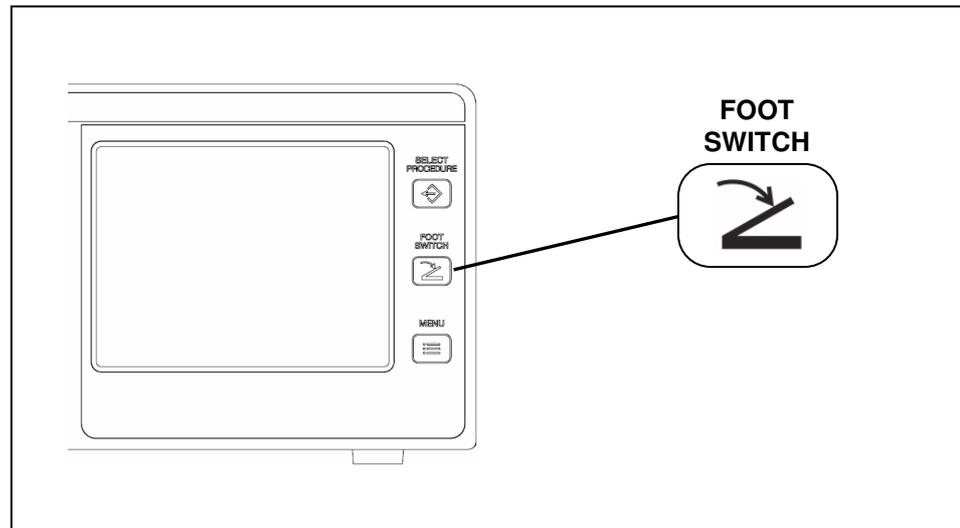

Figure 4.7
2. Press the "FOOTSWITCH push button" on the right side of the touch-screen as shown in figure 4.7.